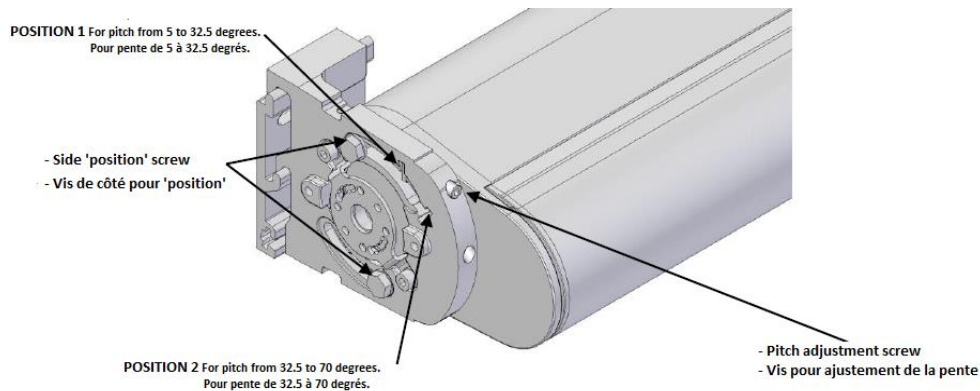

Figure 38
Remove the end caps, slightly loosen the two side 'position' screws (**figure 38**), have your helper lift the front bar several inches above the desired height, then rotate **clockwise** the Pitch adjustment screw (**Figure 38**) to adjust the inclination (one on each end of the Awning). Have your helper release the front bar to see if it reached the desired height.
If you have raised the front bar too high, simply turn set screw counterclockwise to lower the front bar. If the front bar is still not high enough, continue turning the pitch adjustment screw **clockwise (figure 38)**.
Once you have set the arm at the desired height, with the help of your assistant, adjust the other arm the same way (with the pitch adjustment screw located at the other extremity). **Make sure that the front bar is leveled when seen from the front.** Retighten the two side 'position' screws and reinstall the end caps (**figure 38**).
To lower the front bar of the awning, remove the end caps, slightly loosen the two side 'position' screws, ask you assistant to raise the front bar many inches higher than it's actual position, then turn the pitch adjustment screw (one on each end of the Awning) **counterclockwise**, until you reach the desired height. If you have gone too far, simply turn the pitch adjustment screw **clockwise** to raise the front bar (have your helper to lift the front bar a little to take off the weight from the set screw). If the front bar is still not low enough continue turning the pitch adjustment screw **counterclockwise**. **See Figure 38**. Once you have set the arm at the desired height, adjust the other arm the same way (with the screw located at the other extremity). **Make sure that the front bar is level when seen from the front**. Re-tighten the two side 'position' screws and reinstall the end caps.
02. Then reconnect the AC supply to the motor, **install the hand crank and turn it at least 6 complete turns and make certain to do this within 10 seconds**, see figure 38.